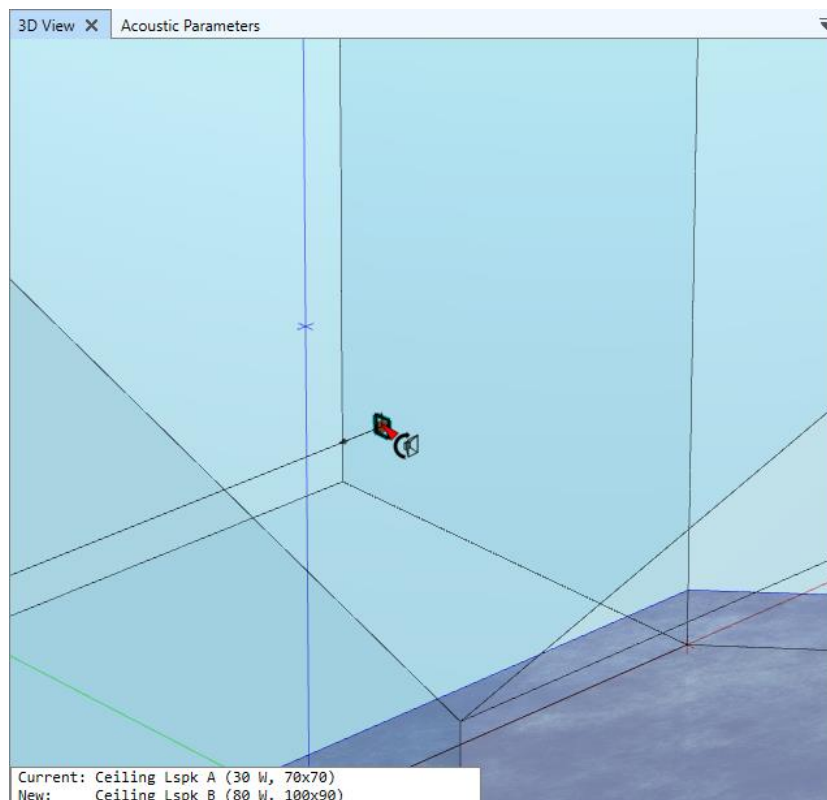

Figure 8.7 Replacing the speaker model of a loudspeaker. The status text shows the current speaker model and the new one.
1. Assuming that no loudspeakers are selected, choose a new speaker model from the search list or tiles display. This will activate a mouse mode and the mouse cursor will change to the  symbol accordingly to indicate the mode. When in this mode, hovering over a loudspeaker in the room model will show its current speaker model as well as the potentially new one in the status text (Figure 8.7). Left-clicking on the loudspeaker will replace the speaker model. This mode is automatically locked to allow switching several loudspeakers in a row.